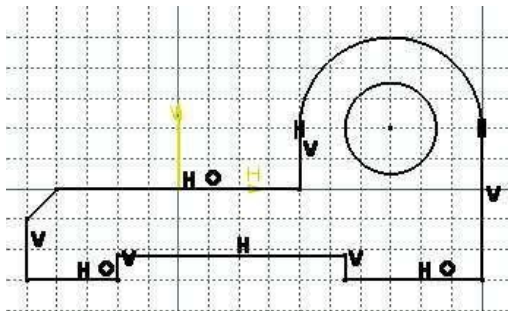

*Figure 1-35 Outer loop of the sketch*
- Draw the sketch of the model using the **Line**, **Arc**, and **Circle** tools, refer to Figures 1-35 and 1-36.
The outer loop of the sketch is completed and is shown in Figure 1-35. The display of the constraints is turned off using the **Hide/Show** tool.